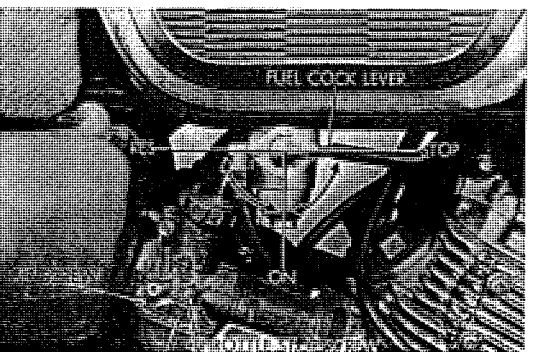

Fig. 6.20 Carburetor
- (1) Turn the limit screw until the strength of both exhausts becomes the same. Speed of the engine should be 1000 to 1200 r.p.m (Refer to Fig. 6.20)
- (2) There are two adjustment screws. These should be turned in or out $1/4$ to $1/2$ of a turn. When the highest rpm is reached, return the screw by $1/8$ of a turn to where the best exhaust sound is produced.
- (3) Engine speed and exhaust intensity are adjusted by turning the limit screw and idling screw until the idling speed is from 1000 to 1200 r.p.m.